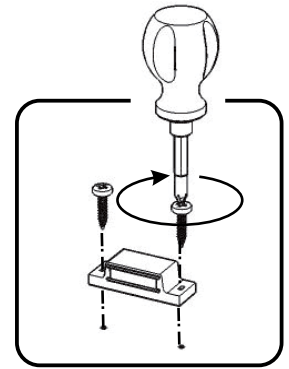

Figure 1
Attach Magnets to Shelf (D) with Wood Screws into pre-drilled holes, then tighten. (See Figure 1)